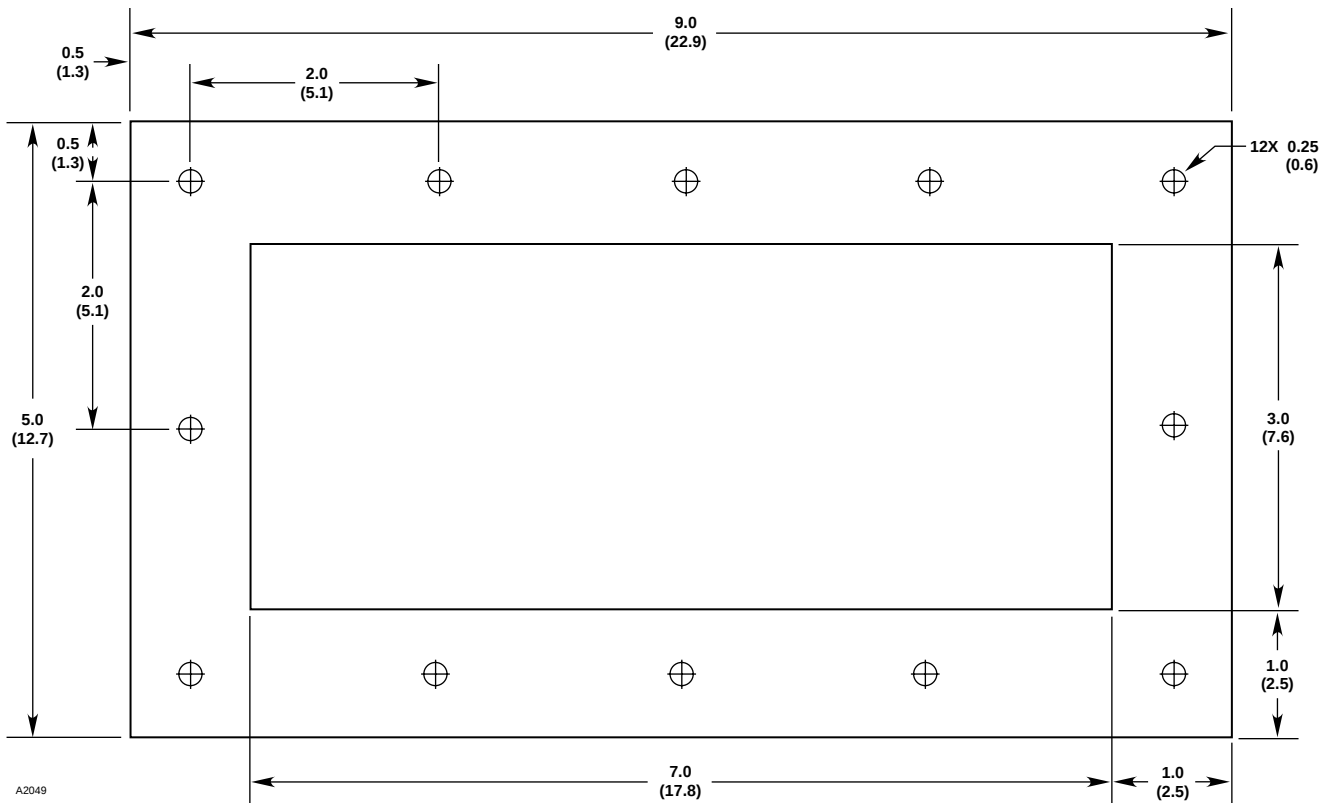

Figure 2—Dimensions of Duct Mounting Gasket in Inches (Centimeters)
2. Mark and drill the appropriate plate mounting holes on the duct wall. Refer to Figure 2 to determine the size and location of the holes.